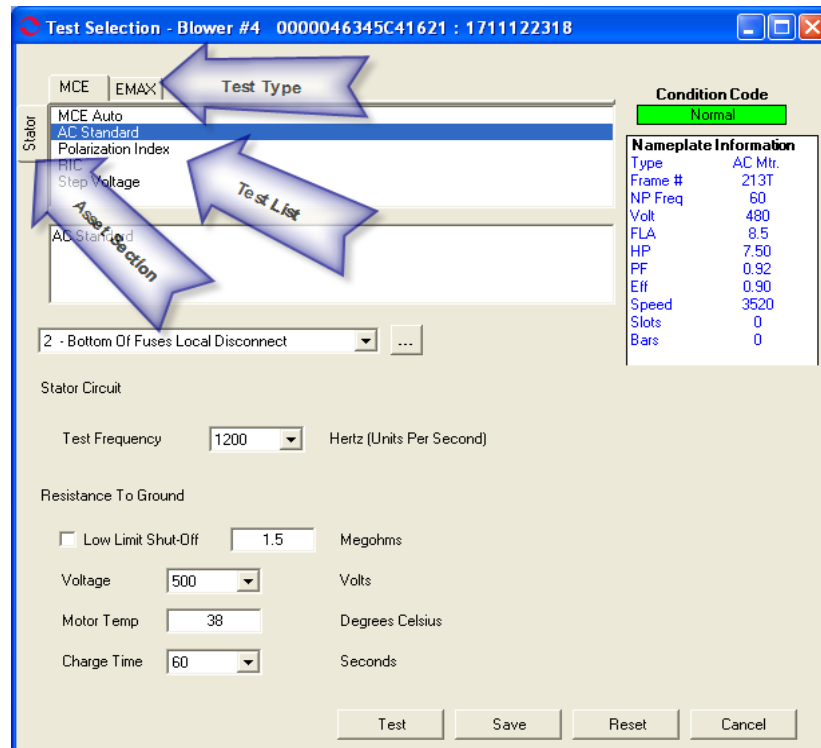

Figure 5-12: Test Selection Window
5. Select the Test Selection icon  on the toolbar. The Test Selection window opens, Figure 5-12.